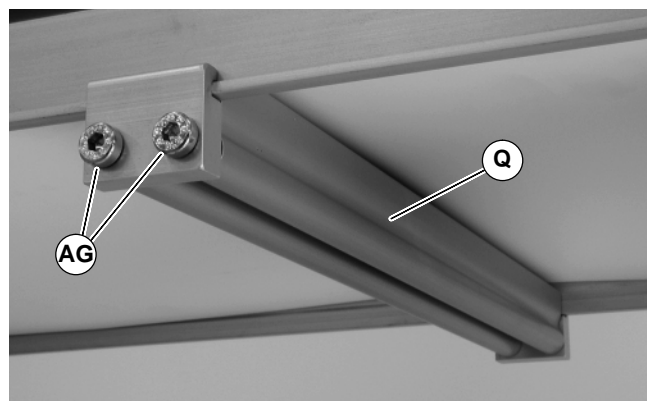

Figure 14
3. Install roller assembly as shown (Q of Figure 14). Tighten screws (AG) to 7 Nm.